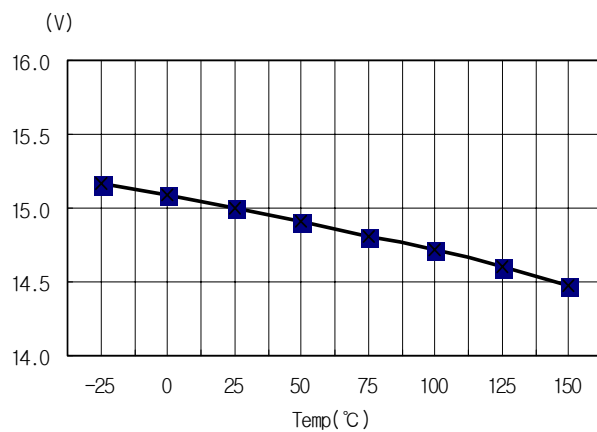

Figure 3. Start Threshold Voltage vs. Temp.
3. Protection Circuit : Besides pulse-by-pulse current limit, the FS6X1220R has 3 self protection functions; over load protection (OLP), over voltage protection (OVP) and thermal shutdown (TSD). Because these protection circuits are fully integrated into the IC without external components, the reliability can be improved. In the event of these fault conditions, FS6X1220R enters into auto-restart operation. Once the fault condition occurs, switching operation is terminated and MOSFET remains off, which causes V_{cc} to be reduced. When V_{cc} reaches 9V, the protection is reset and the supply current reduces to 60 μ A. Then, V_{cc} begin to increase with the current provided through the start-up resistor. When V_{cc} reaches 15V, FS6X1220R resumes its normal operation if the fault condition is removed. In this manner, the auto-restart alternately enables and disables the switching of the power MOSFET until the fault condition is eliminated as illustrated in figure 3.